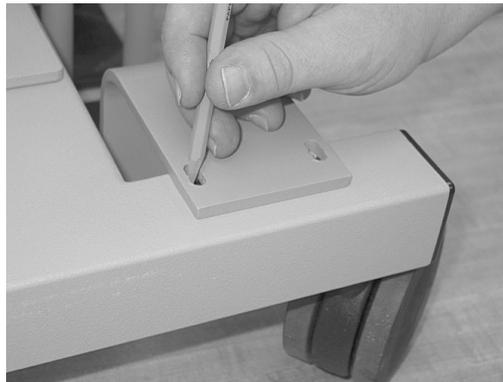

Figure 3.22
- Using a pencil, mark location of tank bracket in center of slotted holes on the bracket. (Figure 3.22).